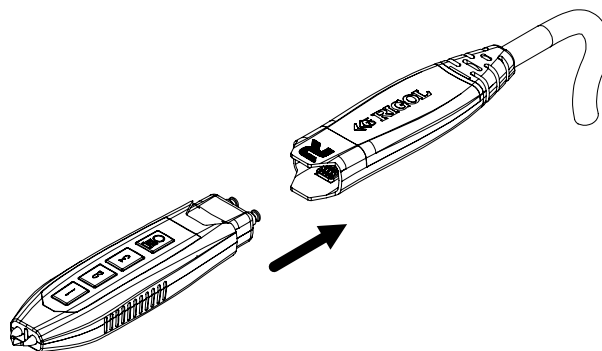

Figure 5.3 To Connect the Probe Head to the PA of the Active Probe
1. Connect the probe head to the preamp of the active probe, as shown in *Figure 5.3*.